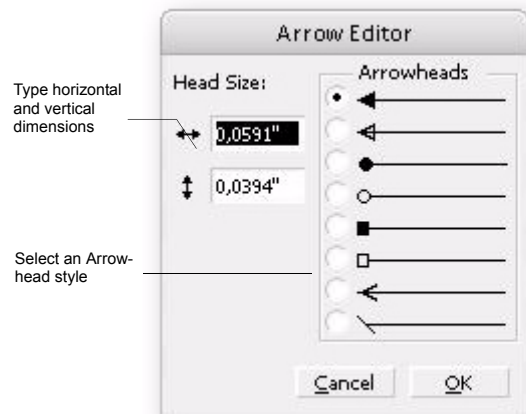

Figure 86.- The Arrow Editor dialog box
2. Double-click an Arrowhead you created that you want to edit. The Arrow Editor dialog box appears (**figure 86**).